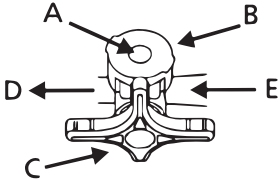

Figure 6
The tap (C) position and the flow directions of the on-directed type stopcock (Figure 6)